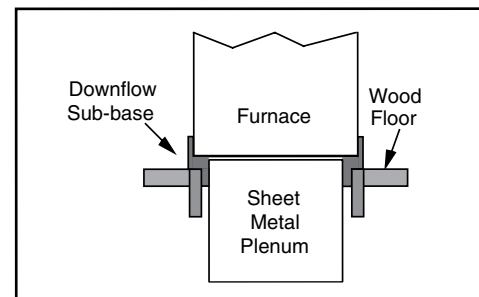

Figure 4. Furnace on a Wood Floor
2. Position the sub-base over the hole with duct collar extended downward as shown in Figure 4.
3. Attach the supply air plenum (Figure 4) to the base in a manner which will ensure 1" clearance to the flooring or other combustible material.
4. Position the furnace on the sub-base (Figure 4).